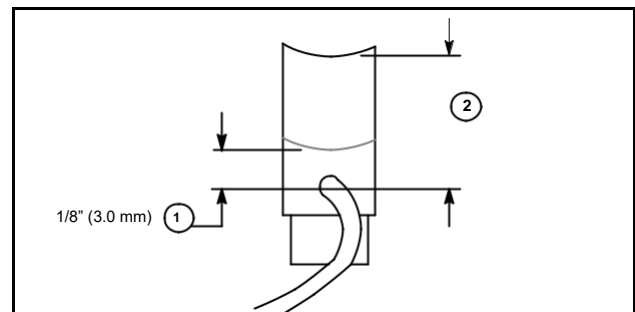

Fig. 45
11. If brushes are worn to within 1/8" (3.0 mm) of wire at closest point, replace brushes (1), Fig. 45. New brush measurement shown (2).